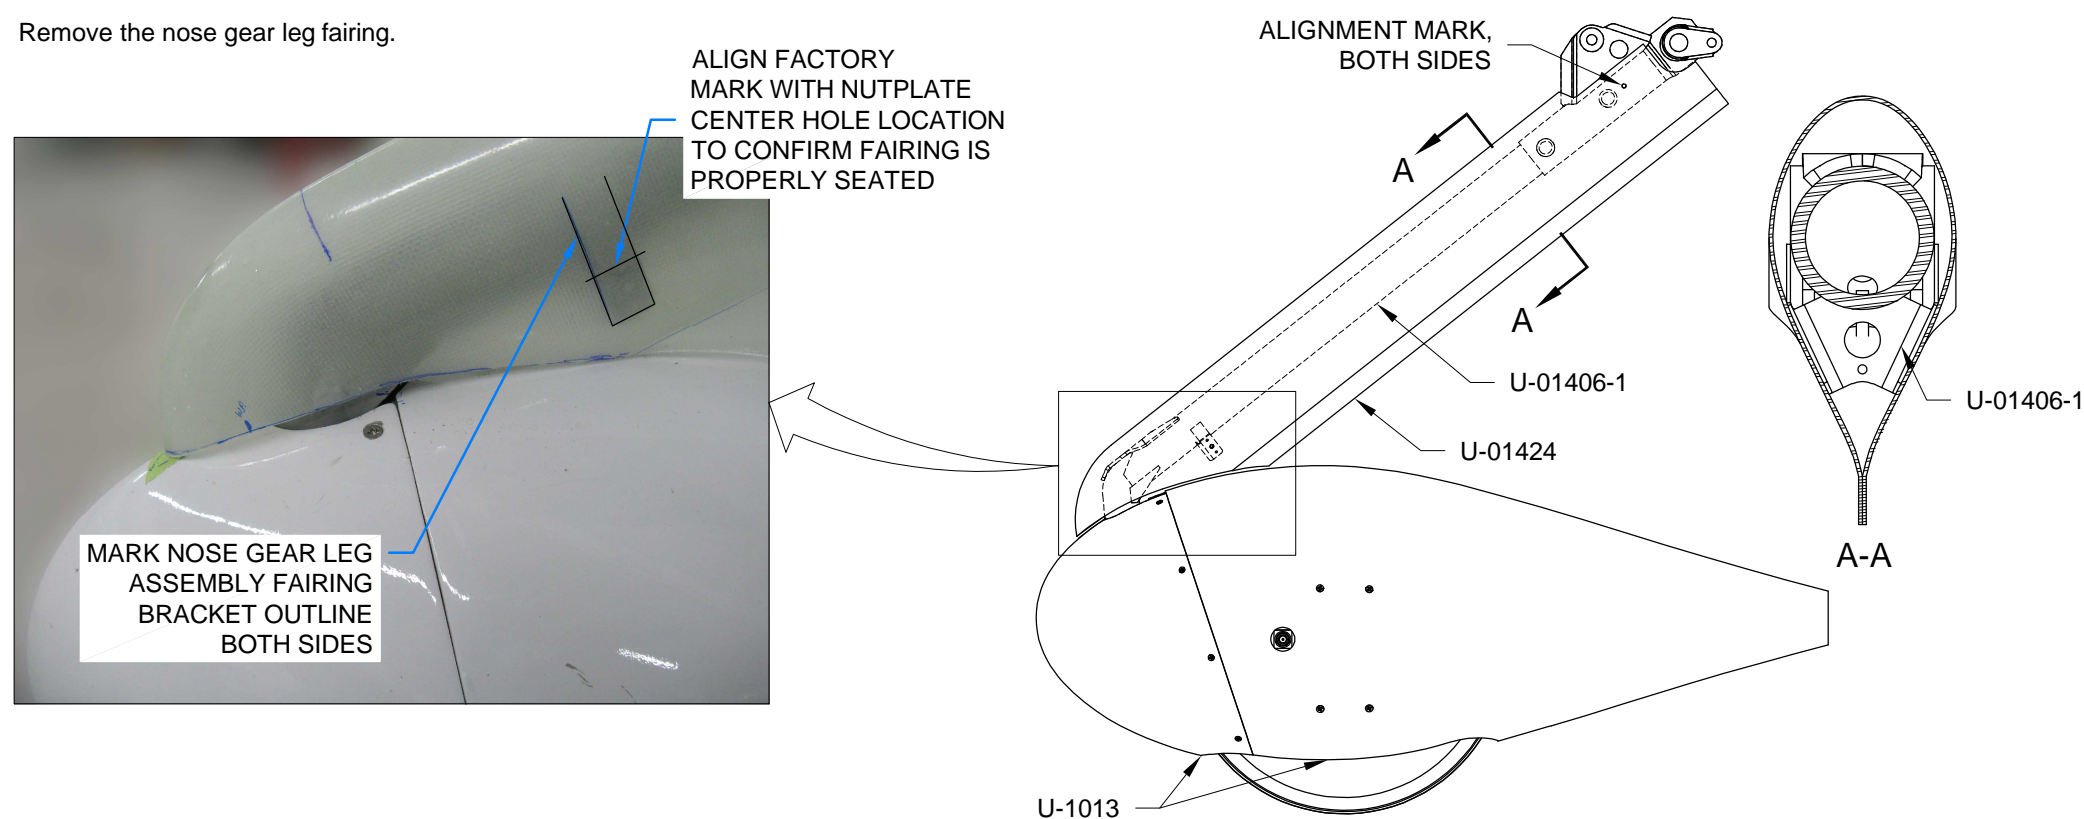

FIGURE 3: ALIGNING THE NOSE GEAR LEG FAIRING
Step 5: With the wheel fairing in place fit the nose gear leg fairing to the U-01406-1 Nose Gear Leg Assembly as shown in Figure 3. Align the gear leg fairing by sliding it forward and aft using the alignment marks on the fairing to assist in properly locating the fairing on the gear leg.
Step 6: Mark the outline of the fairing brackets onto the nose gear leg fairing by sighting through the fairing as shown in Figure 3 detail. Opaque fairings can be lightly sanded to reveal the fairing brackets underneath.